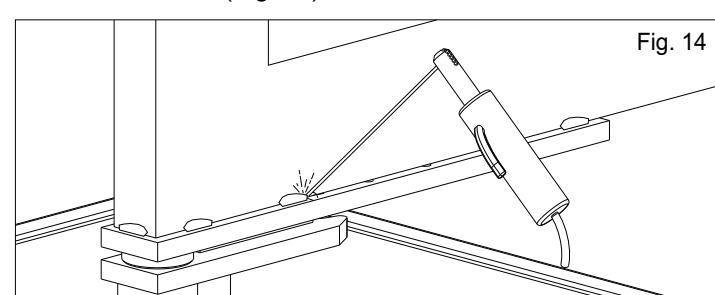

Fig. 14
**3.2.** Weld with care the leaf device to the leaf of the gate realizing a tract fixation of ca. 3-4 cm along the surface of the contact, avoiding the welding next to the threaded holes, furthermore it is necessary to respect the perpendicularity to the axe of rotation (Fig. 14)